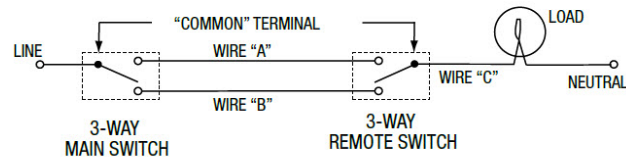

FIGURE 2
- Use **Figure 2** to remove and reconnect wires "B" and "C" to the "Common" terminal of the remote switch. Use the supplied piece of jumper wire if needed.